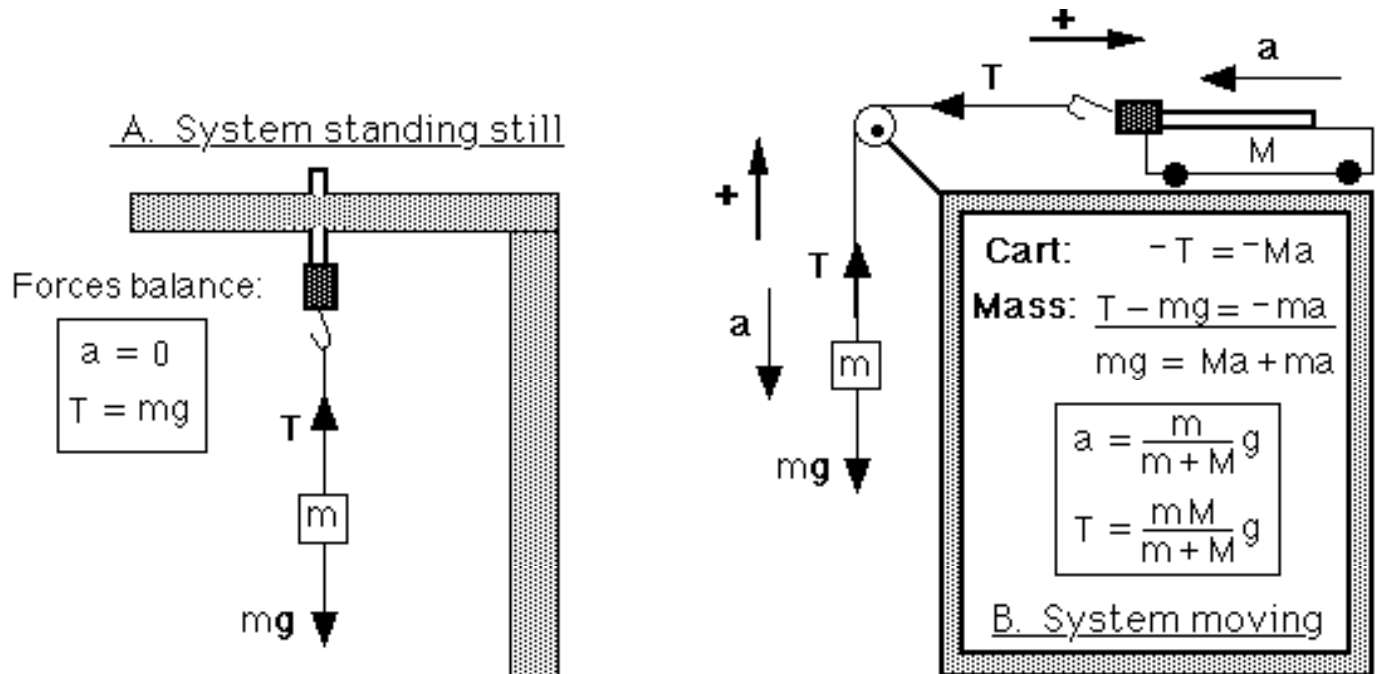

Figure 12. Free body diagrams for (A) a stationary system, and for (B) a moving cart + hanging mass system
- Verify your first prediction. Study the free body diagrams for cases A and B in Figure 12, and make sure you understand the derivation of the formulæ given below for both the tension in the string, T , and the acceleration of the cart, a , in the (A) stationary and (B) moving cases.